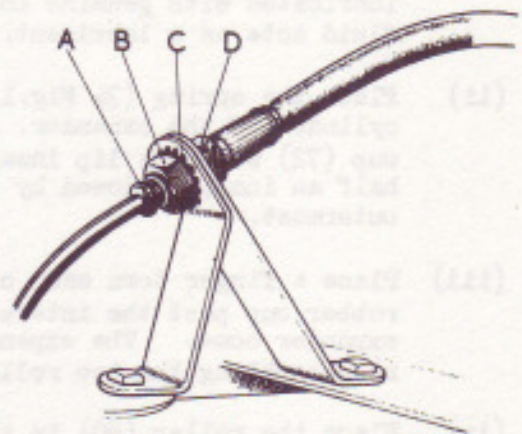

FIG. 10. SHOWING HOW FLEXIBLE HOSE IS ATTACHED TO PIPE-LINE FROM MASTER CYLINDER.
Unscrew the tube nut (A, Fig. 10). Hold the connection (D) with a spanner and unscrew the nut (B) with a second spanner. remove the washer (C) and then withdraw the hose from the bracket.